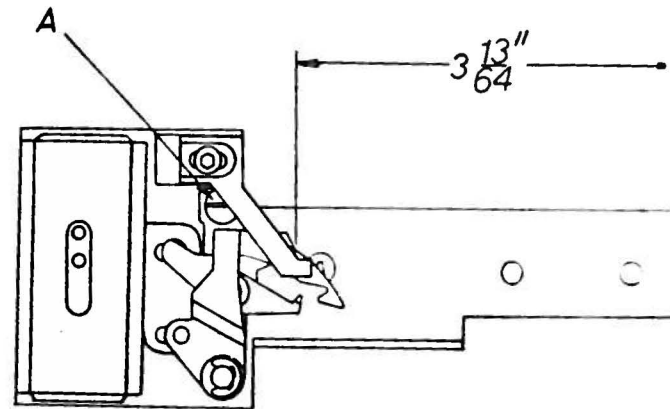

FIG. 1
Loosen knife screw (A) and slide upper knife left or right until a dimension of $3 \frac{13}{64}$ " is obtained from right edge of throatplate to point of upper knife as shown in fig. 1. Tighten knife screw.